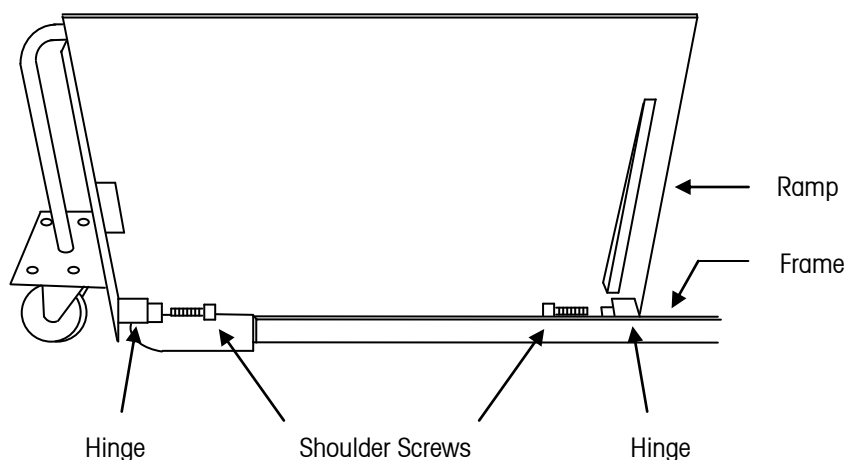

Figure 4-2: Portable Ramp Installation (Left Side)
2. Apply Loctite 262 threadlocker to the threads of the shoulder screws. Install a shoulder screw in each hinge (see Figure 4-2).